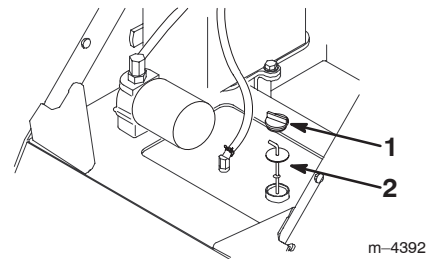

Figure 5
5. Clean the area around the filler neck of the hydraulic tank (Fig. 5).
6. Remove the cap from the filler neck and check the fluid level on the dipstick (Fig. 5).